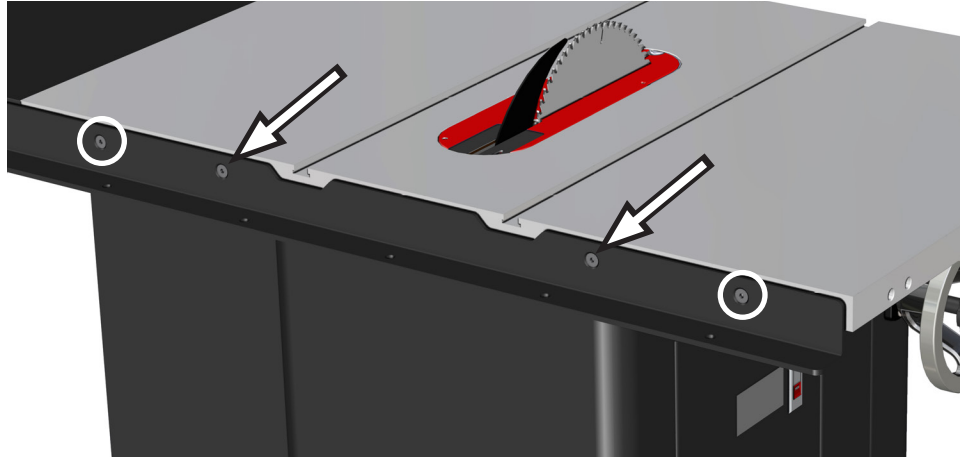

Fig. 2
2. **Installing the Rear Rail:** You install the rear rail like you installed the front rail, except that you will probably want to leave the rear rail a little loose until you get the extension table installed. The rear rail is attached to the main table by two M8 x 25 (6) countersunk socket head bolts, as shown by the arrows in Fig. 2. Position the rear rail along the back of the table with the cut-outs at the top of the rail centered on the miter gauge slots in the table. Thread the bolts into the threaded holes and tighten using the 5 mm hex driver. See Fig. 2.
Mount the rear rail to each extension wing using an M8 x 35 (2) countersunk socket head bolt (the longer bolts), an M8 washer (3), an M8 lock washer (4) and an M8 hex nut (5) for each of the holes shown by the circles in Fig. 2. If necessary, push down or pull up on the wings before tightening the nuts to ensure the wings are parallel to the table. As mentioned above, it is usually easier to leave the bolts in the rear rail slightly loose until the extension table is installed as it may be difficult to position the extension table between the rails if both rails are tightened down.